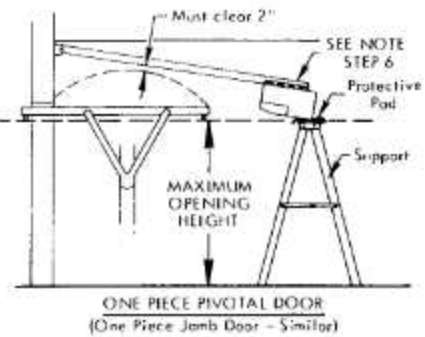

FIGURE 3
- 4** With door closed, position header end of track and attach with $1/4 \times 1-3/4$ " lag screws. Swing power unit end of operator up near mounting position and support (suggest step-ladder). Place padding between operator and support to protect operator cover (See Figure 3).